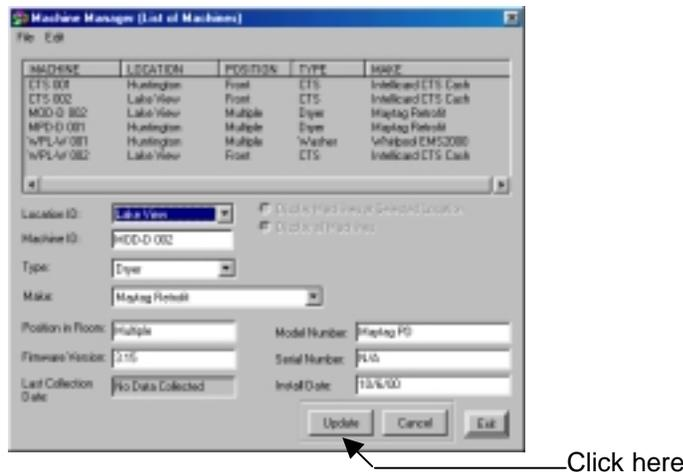

Figure 7.5 Saving Changes
5. Verify that the new information is correct, and click the Update button to save changes (Figure 7.5).